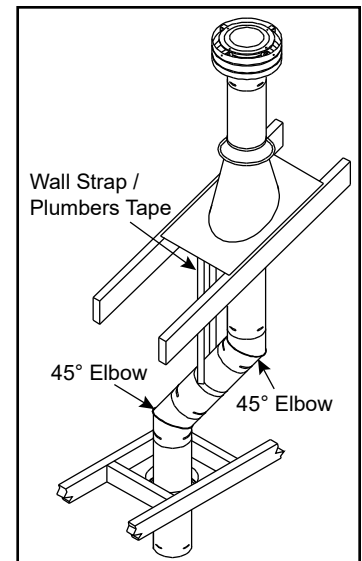

Figure 3.35
2. If an offset is necessary in the attic to avoid obstructions, it is important to support the vent pipe in order to avoid excessive stress on the elbows. Wall straps or plumber tape may be used for this purpose, Figure 3.35
2. Once the center point of the penetration has been determined, cut a 6" (152 mm) diameter hole in the masonry. Be careful, if the hole is too large, the retro connector might not mount properly. If the hole is too small, then the appliance might starve for intake air. If there is a frame wall in front of the masonry wall, cut and frame a 10" (254 mm) clear square opening in the wall (centered around the 6" (152 mm) masonry opening). If there is sheet rock only (no studs) in front of the masonry, the 10" (254 mm) clear opening is still needed, but does not need to be framed. This allows the retro connector to mount directly on the masonry and provide clearance to the combustibles, Figure 3.35.